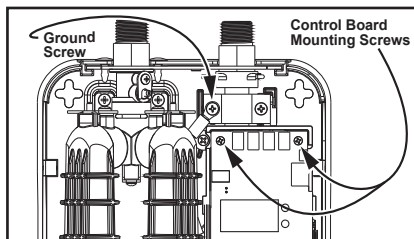

Figure 50 - Ground Wire & Control Board Mounting Screws.
- 6 With all the components disconnected from the control board, remove the display cover by pressing in the two side tabs on the left and right, and gently pull away from the control board. See Figure 50.
- 7 Using a Phillips screwdriver locate and remove the two screws securing the control board to the mounting tray and the screw securing the ground wire to the top heat sink. See Figure 50.
- 2 Install the ground wire to the heat-sink bracket, reusing the larger screw removed in step 7. See Figure 50.
- 3 Install the new control board in the mounting tray and secure it into place with the two smaller screws removed in step 7. See Figure 50.